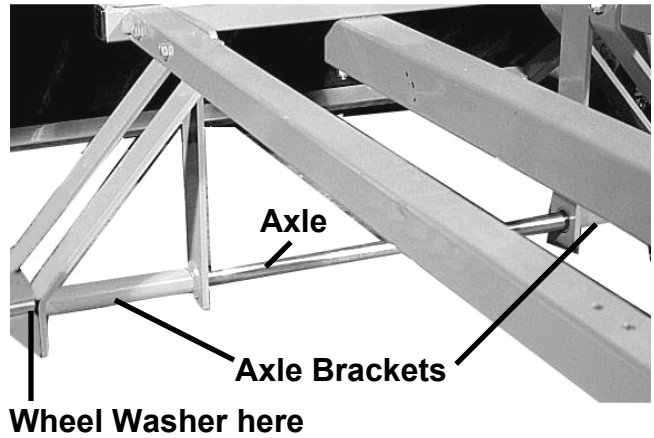

Figure 3
9. Slide a Flat Wheel Washer over the Axle and up against the Axle Bracket (*Figure 3*).